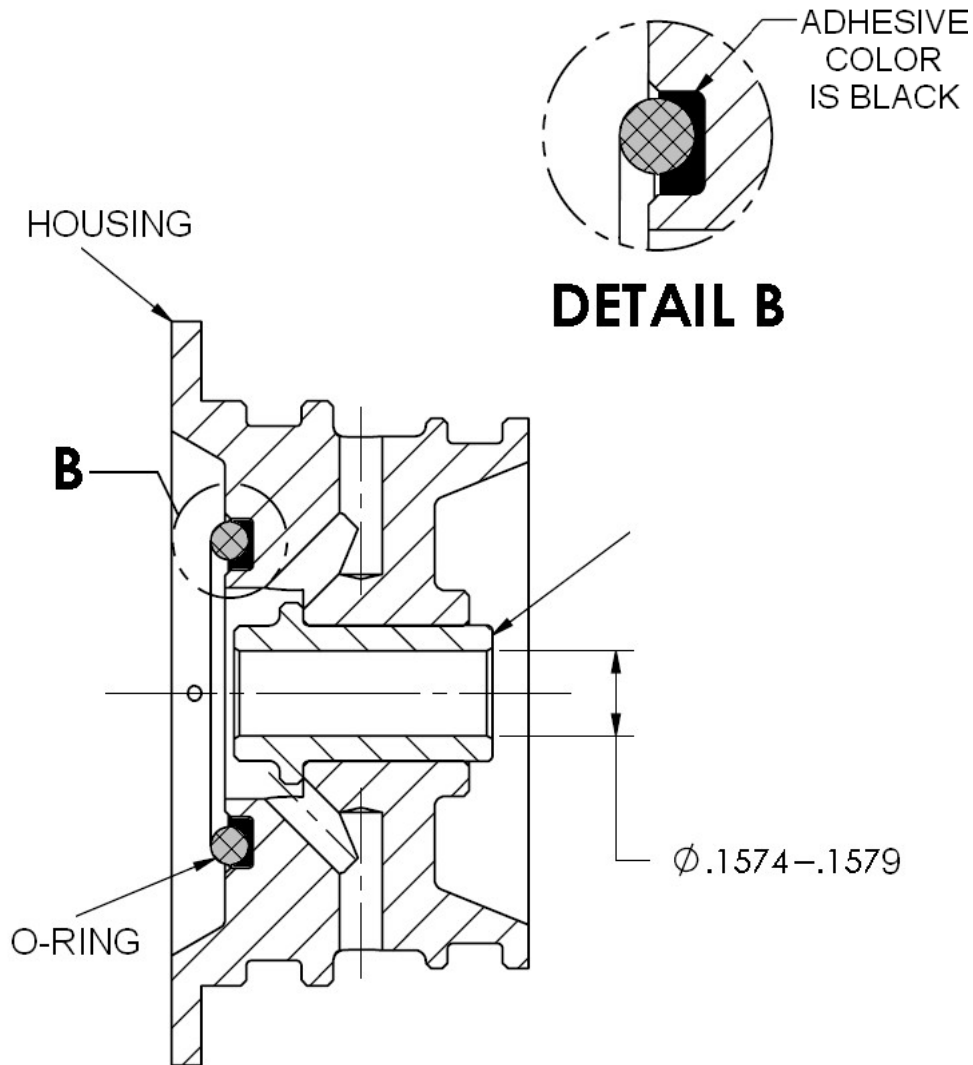

Figure 2, Cross-Section View of Guide Assy
- I. Verify the bushing bore ID is sized at 0.1574" – 0.1579" as shown in Figure 2. If the bushing bore ID size is within these limits the Guide Assembly is acceptable. If the bushing bore ID size is outside these limits, the Guide Assembly should be returned to Wencor as described in section 4 of this SB.
- II. Verify the bonded O-ring is properly bonded to the Guide Assembly. Using light finger pressure, verify all bonded surfaces of the O-ring are intact (no gaps) and the O-ring will remain in the groove. The adhesive should be visibly present on the ID and OD of the O-ring as shown in Figure 2 with enough adhesive to achieve this requirement. If the O-ring is found to be fully bonded to the Guide Assembly, the bond is acceptable. If the O-ring bond does not meet this criteria, the Guide Assembly should be returned to Wencor as described in section 4 of this SB.